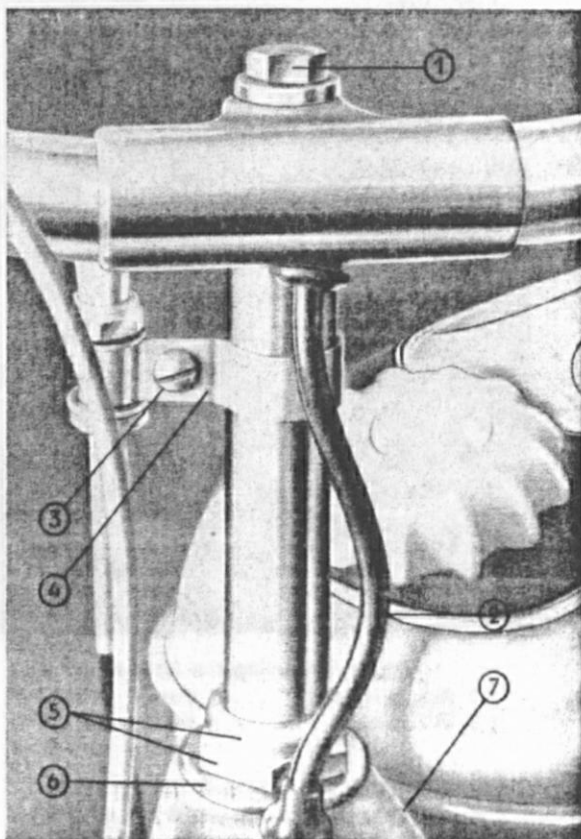
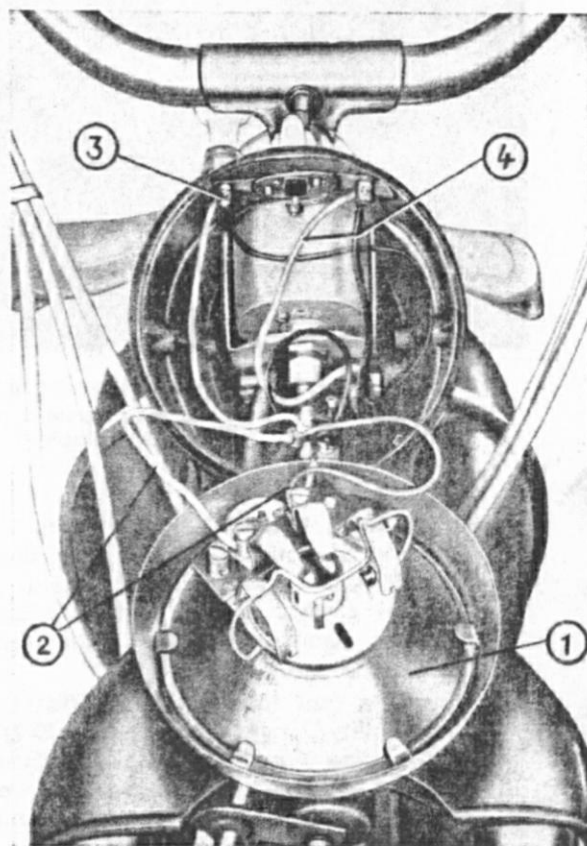
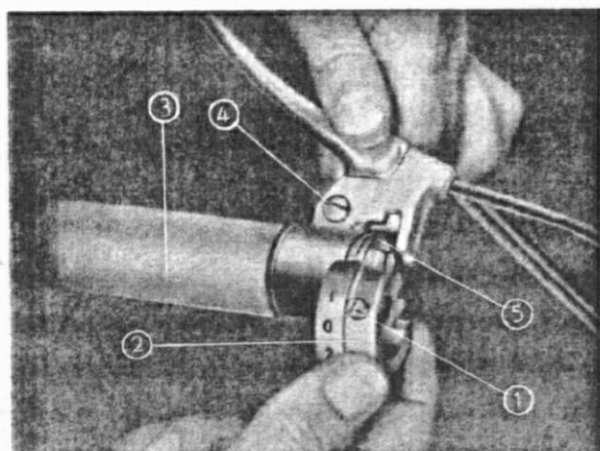

Fig. 20: Handlebar attachment
Fig. 21: Head lamp assembly
Fig. 22: Assembling the gearshift twist grip
1. Loosen clamping spindle (Fig. 20/1), knock clamping spindle and key downward, press handlebar into handlebar shaft, loosen the two cone screws (Fig. 22/1) of the twist grip housing (Fig. 22/2), pull the gearshift twist grip (Fig. 22/3) with cables from the handlebar.
3. Take out head lamp assembly with lamp socket (Fig. 21/1). Having marked head lamp cables 56a, 56b (blue and white, Fig. 21/2), and tail light cable 58 (black) and dimmer switch cable 56 (black) (Fig. 21/3) at their
connecting terminals, disconnect them, and pull cable assembly (Fig. 20/2) with protective rubber tube out of the head lamp body.
4. Unscrew fixing screw (Fig. 20/3) of choke cable shackle (Fig. 20/4), bend back shackle, and press it away from the fork tube.
Proceed in reversed order of dismantling. Pull cable assembly (Fig. 20/2) into head lamp body and connect cables. Connect white cable with one of the terminals of the lamp socket (Fig. 21/2). Connect blue cable with the other lamp socket terminal (Fig. 21/2). Connect both black cables with the right-hand terminal (looking in the direction of motion) of the light switch (Fig. 21/3).
Pull off gearshift twist grip housing (Fig. 22/2), loosen clamping screw (Fig. 22/4) of clamping
Reassembling: Stretch wire at clamping nipple (Fig. 22/5) until the nipples of the wire ends touch the cable ends. Now the nipple of the twist grip is not in the middle of the free cable loop, dividing it into a shorter piece and a longer one. Hold twist grip in its normal position, insert the shorter piece of wire at the side of the rubber grip, place the nipple, the longer end first, into its recess and tighten it there, while simultaneously pulling the clutch lever.
Disconnect light cable 51 (red) (Fig. 21/4) at
light switch, left-hand side (looking in the direction of motion); unscrew fork tube nut (Fig. 20/5) and remove washer (Fig. 20/6). Unscrew screws at left and right bottom ends of head lamp body, and remove head lamp body (Fig. 20/7).